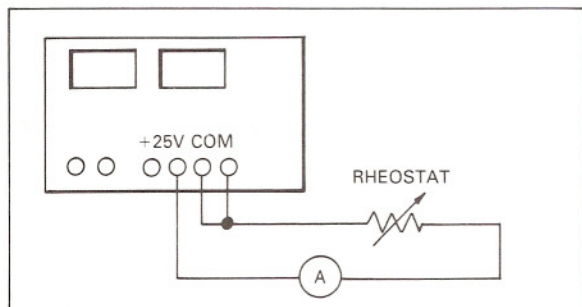

Figure 7-1.
- Connect a known calibrated ammeter and a 12.5W (25W for the LPS-152) rheostat as shown in Figure 7-1.